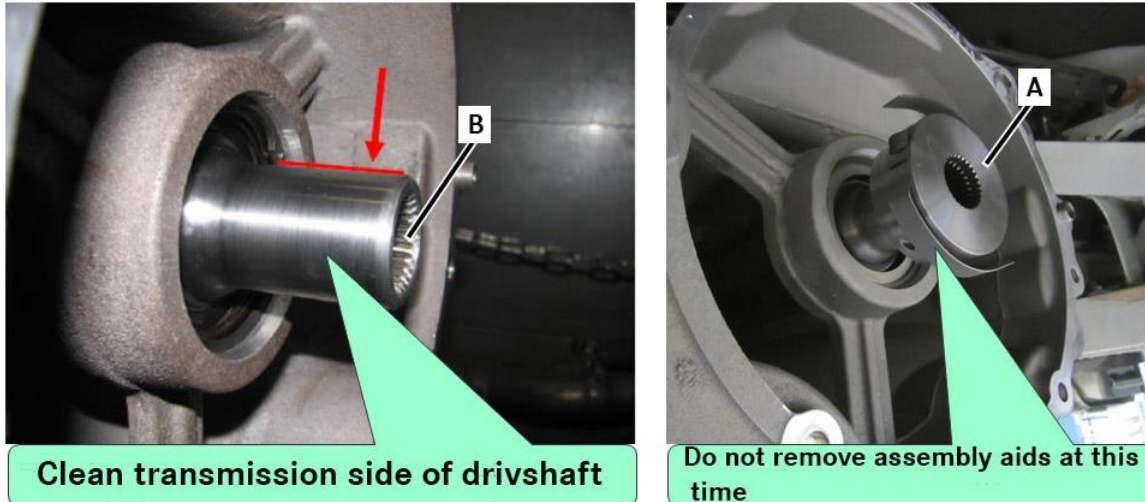
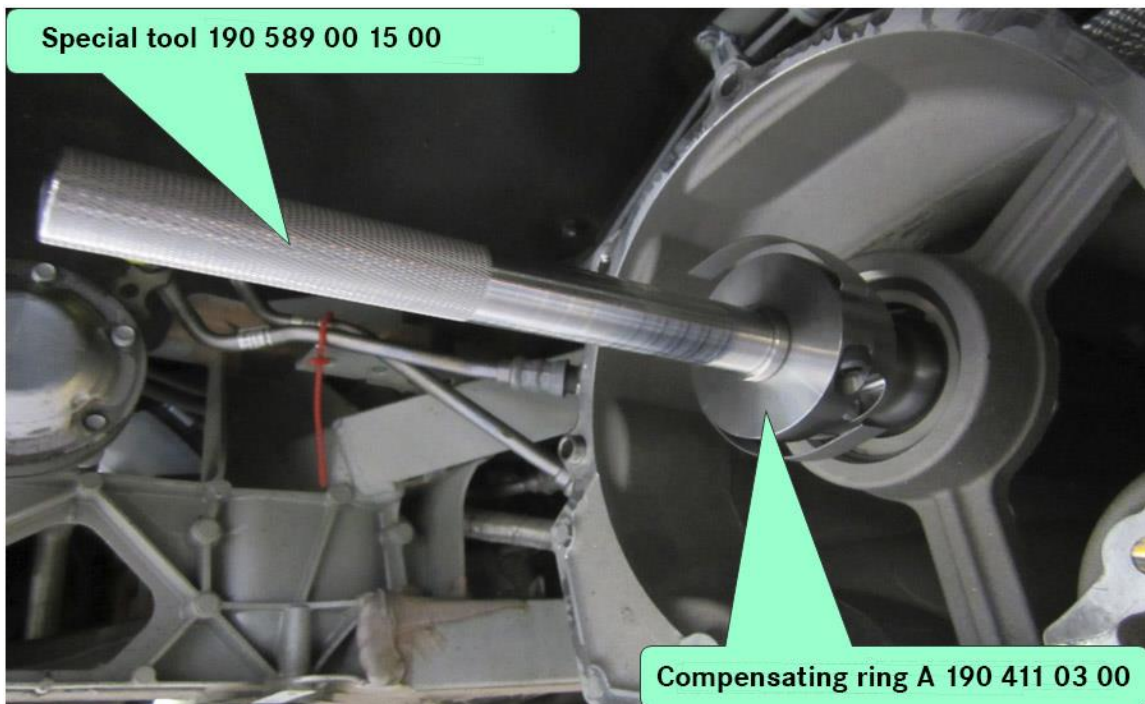
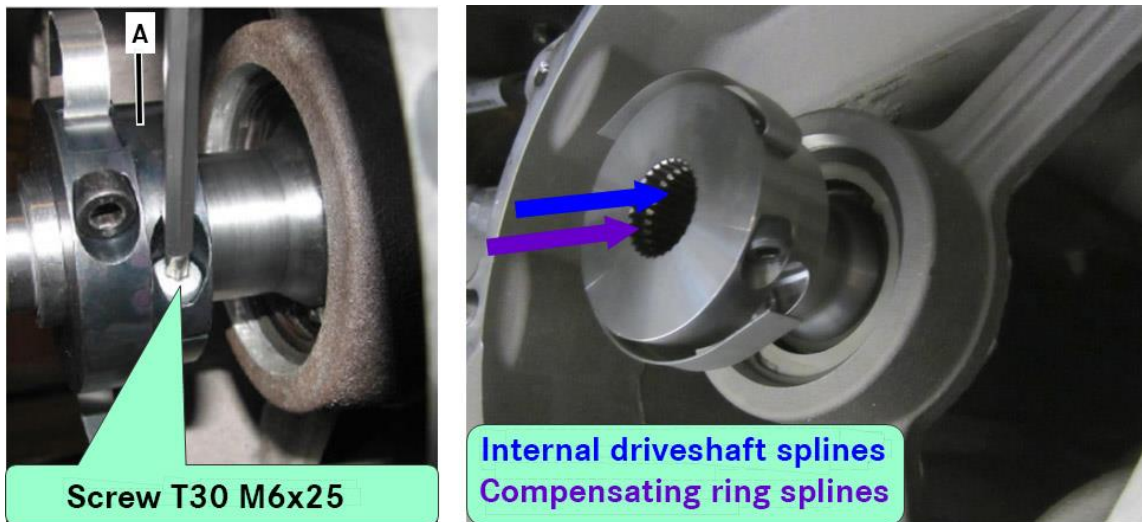

Figure 4
Figure 5
Figure 6
- A new compensating ring (A, Figure 4) must be installed.
1. Clean transmission side of drive shaft end (arrow, Figure 4) of any lubricants.
2.  Slide new compensating ring (A, Figure 4) onto driveshaft (arrow) **up to end stop**.
Do not remove assembly aids/fastening plates (Figure 4) at this time.
3. Center drive shaft gearing (B, Figure 4) and compensating ring (Figure 5) using assembly drift;  special tool: 190 589 00 15 00 (Figure 5).
4. Tighten compensating ring's clamping ring (A, Figure 6) to drive shaft using **new** clamping screw (Figure 6); **Nm** torque **new** clamping screw (Figure 6) to 10 Nm. The assembly drift (special tool, Figure 5) may now be removed.
- The **new** clamping screw (Figure 6) is coated with thread locking compound.
- Part number for **new** clamping screw (Figure 6) is: N 000000 006551